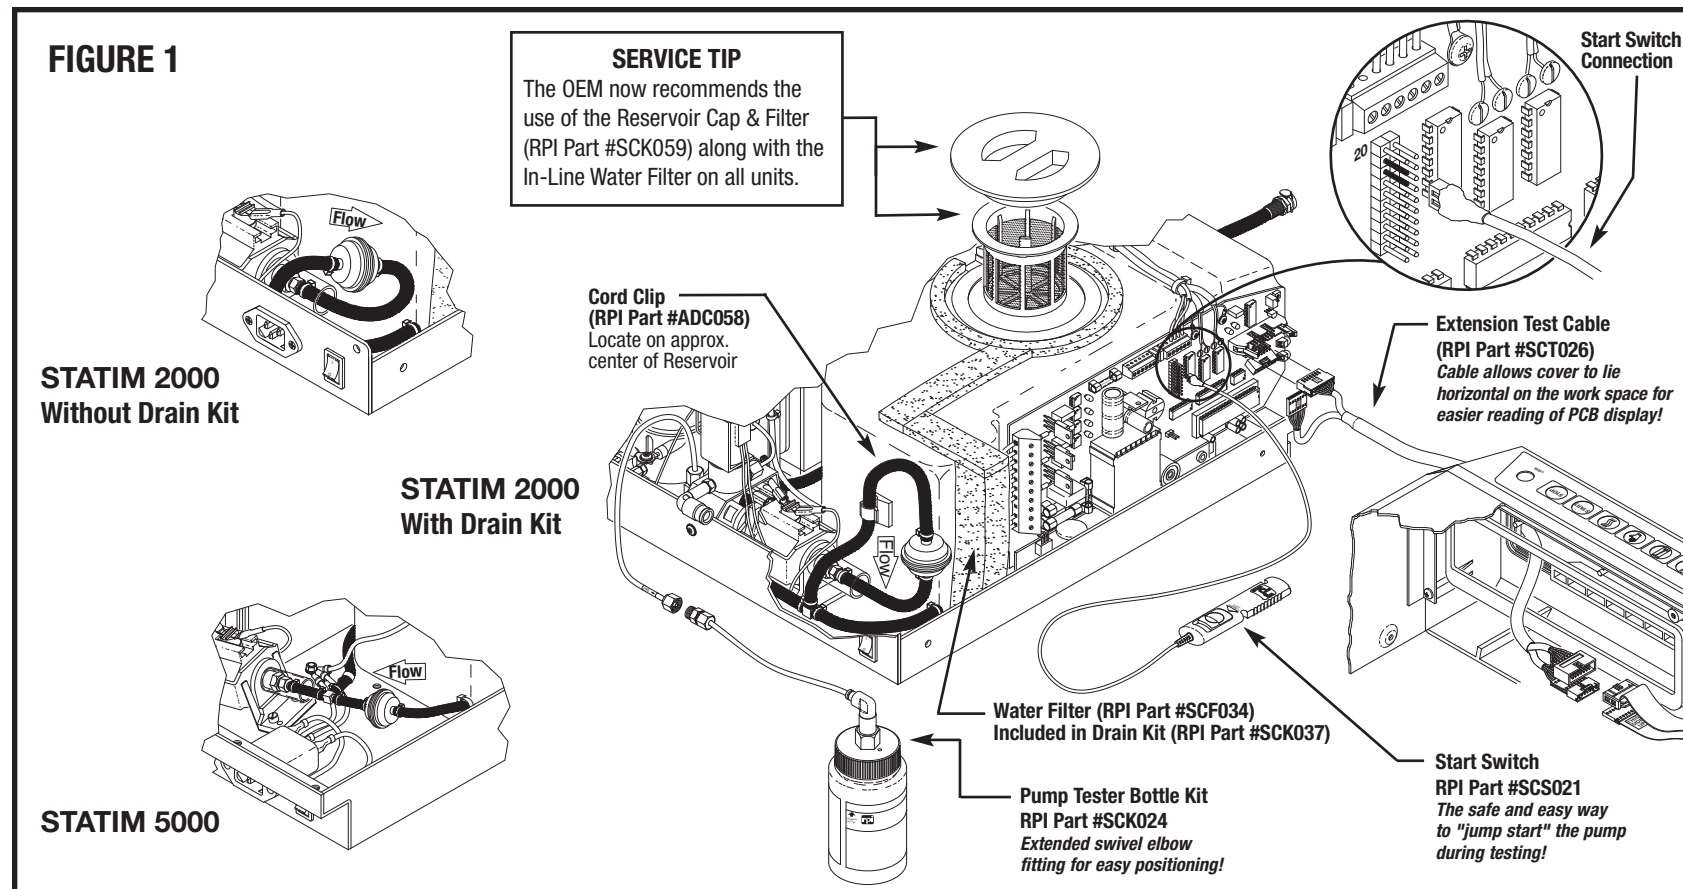
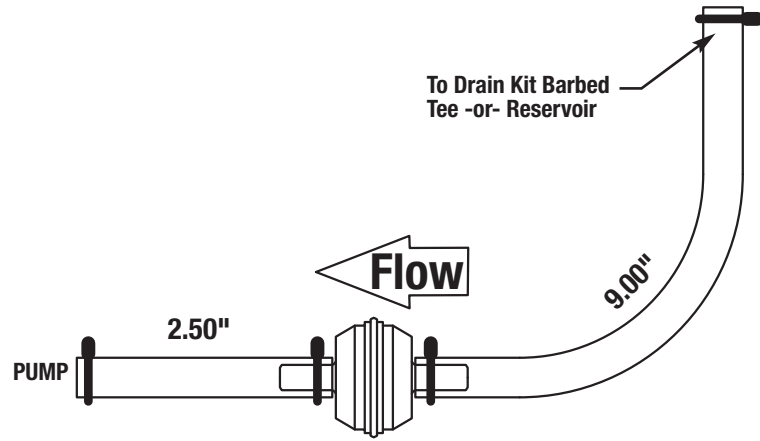

FIGURE 2 (STATIM 2000)
FIGURE 4
1. Disconnect the power to the autoclave. Remove the cover. Disconnect the (2) ribbon cables from the display PC board and keypad.
5. Remove the (4) mounting screws from rubber mounting brackets on existing pump and remove pump from chassis.
6. Assemble the silicone tubings (supplied in this kit) to Water Filter (In-Line) (RPI Part #SCF034) as shown in **Figure 2 (STATIM 2000)** or **Figure 3 (STATIM 5000)**. Note direction of the flow arrow (if present) on Water Filter (In-Line). Secure barbed connections to filter with cable ties.
7. Insert the spring clip (supplied in this kit) behind rubber mounting bracket on input side of pump (see **Figure 4**) and mount new pump to chassis using (4) shoulder screws (supplied in this kit). Tighten shoulder screws until they bottom out.
8. Re-route wires and reconnect to main PC board (see **Figure 4**). Secure wires using cable ties.
11. Attach the silicone tubing from the water filter (in-line) to the drain kit barbed tee or reservoir. Note flow arrow direction and tubing length configuration (see **Figure 2 or 3**). Pass silicone tubing from other end of water filter through the clear protective tube and install onto the input port barb of the new pump (see **Figure 4**). Install clear protective tube over fitting and secure connections with cable ties. **CAUTION:** ensure the routing of tubing is located in an optimal location, and that there is no KINKING of tubing!
14. Reconnect the (2) ribbon cables from the display PC board and keypad. For ease of testing, use our Extension Test Cable (RPI Part #SCT026).